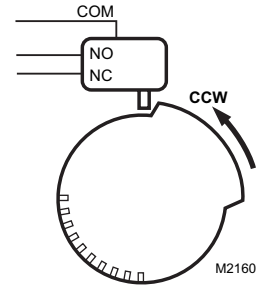
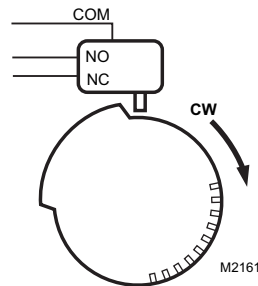

Fig. 12. Switching configuration for CCW rotation (top view).
Fig. 13. Switching configuration for CW rotation (top view).
1. Determine desired switching action (i.e., if switch energizing is to occur during CW or CCW rotation). With switch cam as shown in Fig. 12, the normally closed contact opens in CCW rotation. The normally open contact closes. Conversely, with switch cam as shown in Fig. 13, the normally closed contact opens during CW rotation and the normally open contact closes.